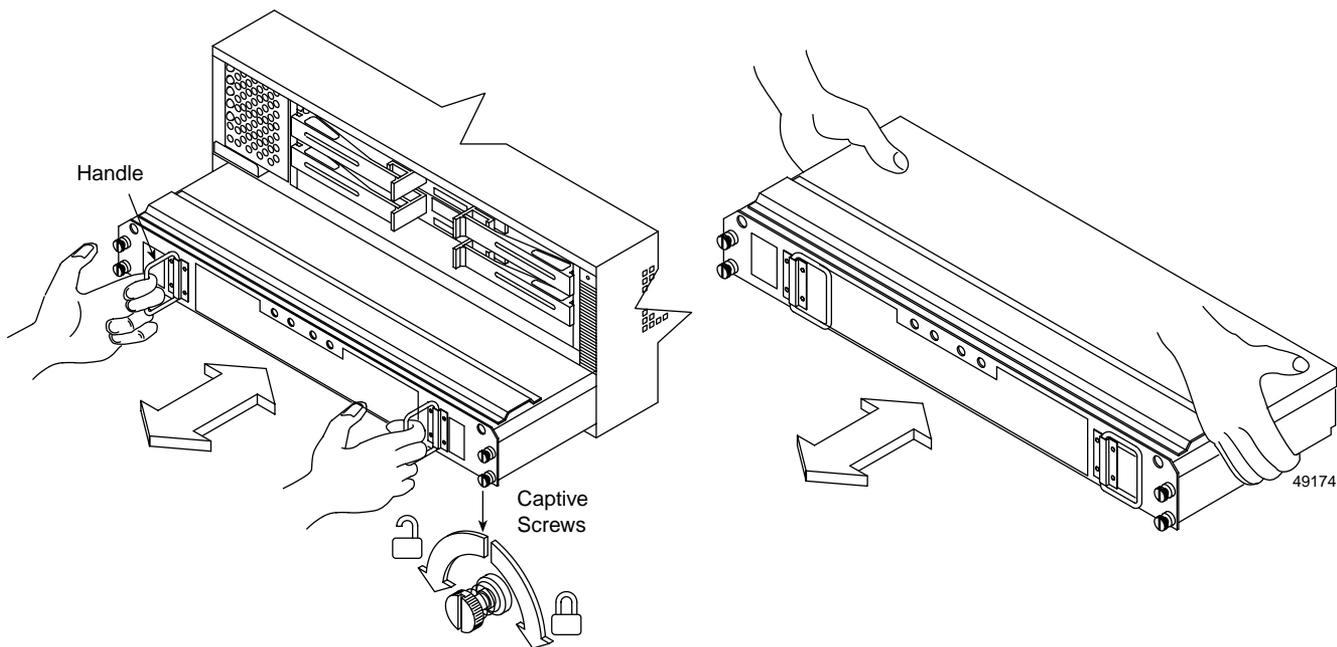

Figure 4-5 Removing and Installing a Battery Canister
4. Remove the battery canister (Figure 4-5 on page 56).